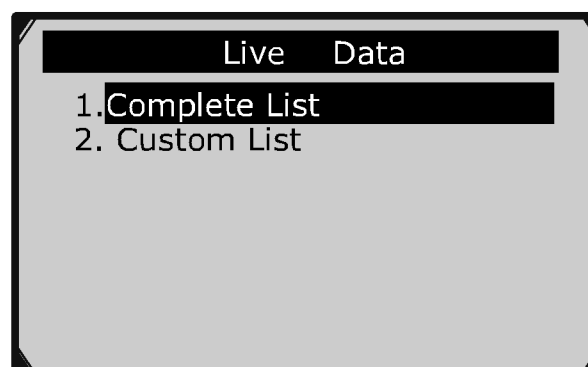

Figure 6.10
- 1) To view complete set of data, use **UP/DOWN** scroll button to select **Complete List** from **Live Data** menu and press the **OK** button. (Figure 6.10)
- 1) To view customized PID data, use the **UP/DOWN** scroll button to select **Custom List** from **Live Data** menu and press the **OK** button.( Figure 6.10)